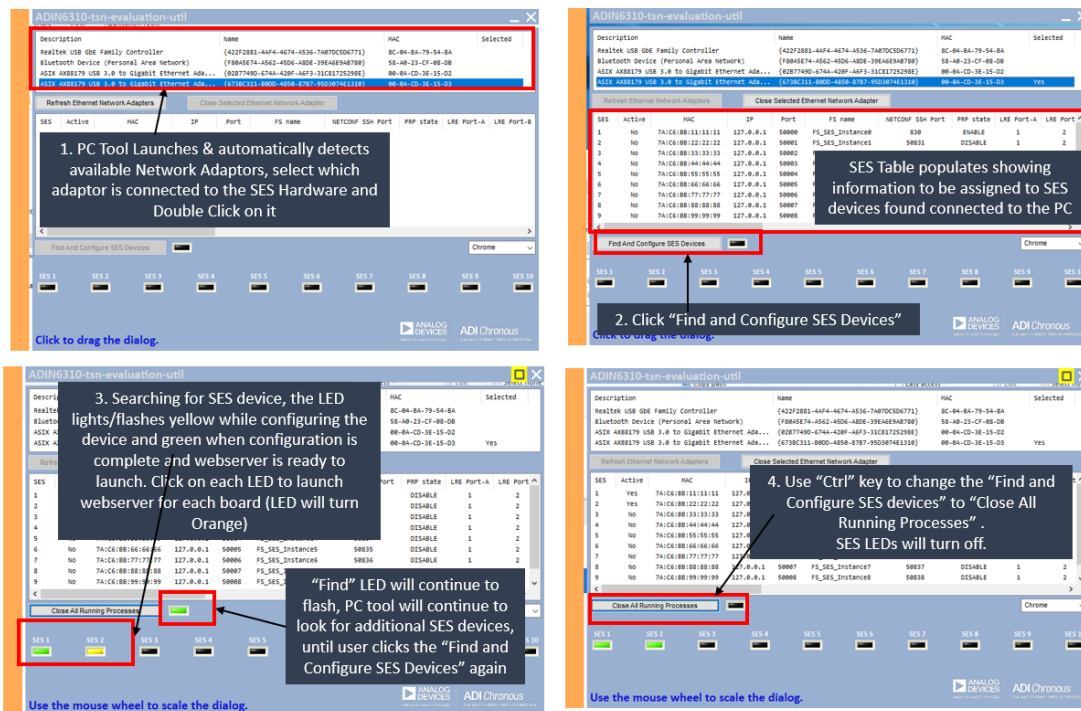

Figure 24. Starting the GUI Application
Start the application by double-clicking the **ADIN6310-tsn-evaluation-util.exe** executable. The GUI application window appears, as shown in Figure 24.
3. The GUI searches for and configures the MAC address for any ADIN6310 device it finds. Each Switch powers up with the same default MAC address (7a:c6:bb:ff:fe:00). The first thing the GUI application does during configuration is to assign a primary MAC address (based on XML configuration). If observing the traffic from Host to Switch using Wireshark, initially messages are sent from the PC to the default multicast address (79:c6:bb:ff:fe:00) and responses come from default MAC address 7a:c6:bb:ff:fe:00 until the primary MAC address gets assigned. An LED turns green for each board connected. Clicking on the LED for each connected ADIN6310 device launches a browser for each board as shown in Figure 24. Once the web server is launched, the LED color changes to orange. Keep the PC application open, it needs to stay running while interacting with the web server. The GUI application continues to search for more ADIN6310 devices, so if all connected devices have been identified, stop the application searching by clicking the **Find and configure** button again. The find LED then stops flashing.
4. If boards are power cycled or reset button is pressed, the device reverts to the default MAC address and if the GUI application is searching, it sees them as new devices (additional LED lights go green). To avoid this, close the older processes associated with those instances of boards on the keyboard, use **Ctrl** and **Close All Running Processes**, as shown in point 4 of Figure 24.